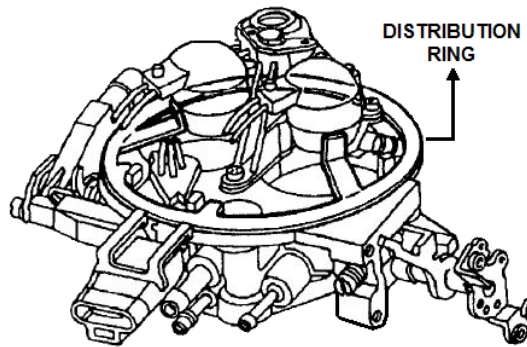

Figure 12: Distribution Ring Installation
- Place the distribution ring over the top of the injector pod assembly and position it so that it rests securely on the outer edge of the throttle body. Ensure that the two tabs on the distribution ring are pointing upwards and are resting on the injector pod assembly (Fig. 12).